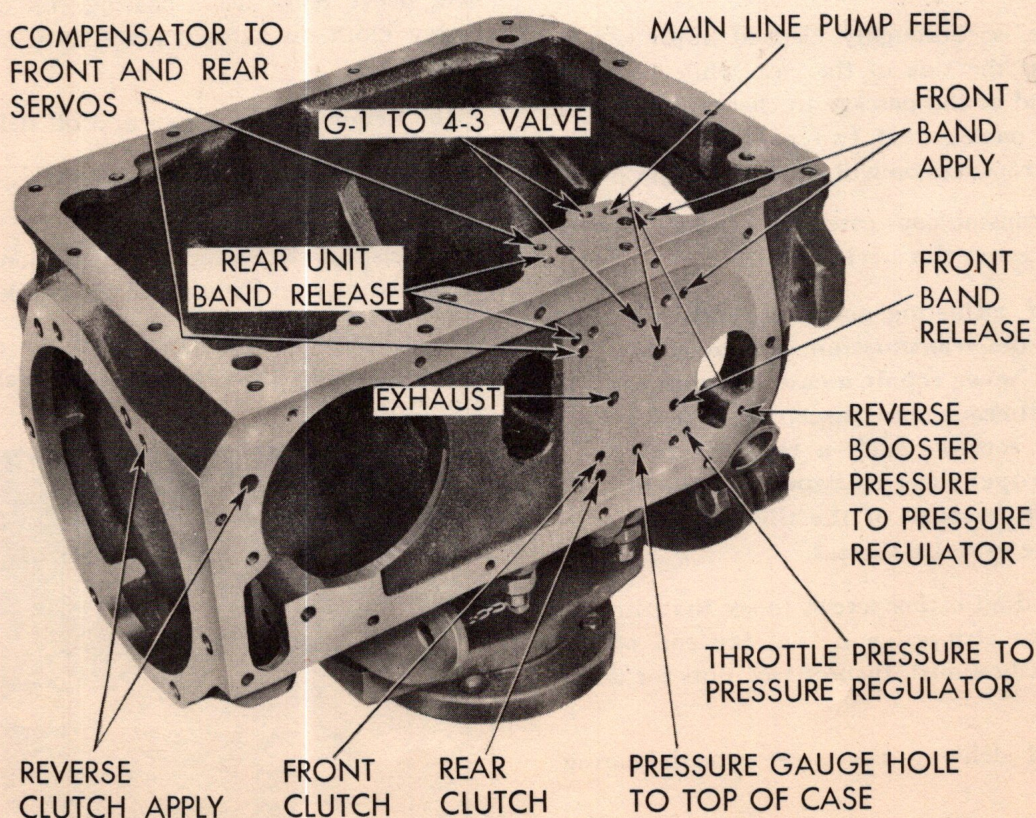

Fig. 188—Oil Passages in Transmission Case
2. Remove oil pressure line pipe plug between band adjusting screws (band anchor stop). Blow out all oil passages through the case (Fig. 188).